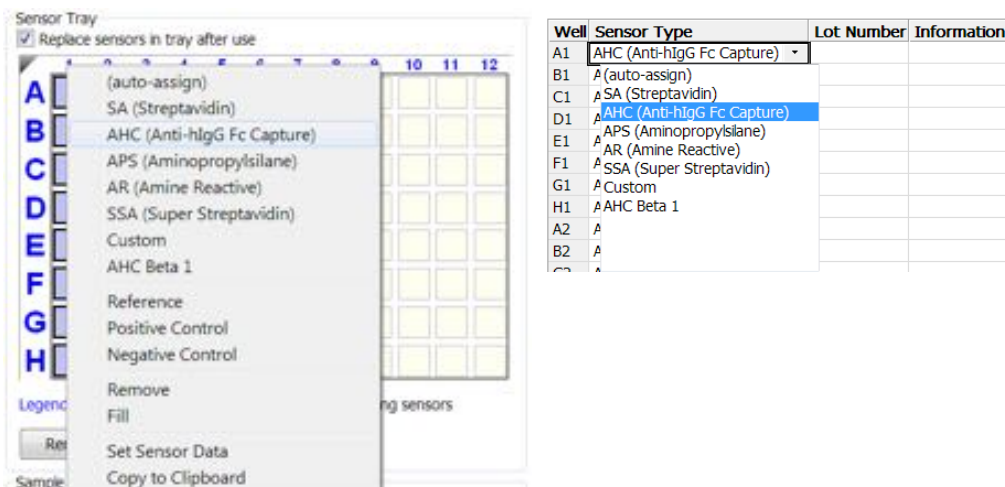

Figure 10-56: Sensor Assignment Window—Changing the Biosensor Type
- Select a column in the **Sensor Tray Map**, right-click and select a biosensor type from the drop-down list (Figure 10-56 left). The associated wells in the **Sensor Type** column will automatically populate with the biosensor type selected.
- Select a cell in the **Sensor Type** table column, click the down arrow and select a biosensor type from the drop-down list (Figure 10-56 right). All other wells in the same column of the **Sensor Tray Map** as the selected cell will automatically populate with the biosensor type selected.